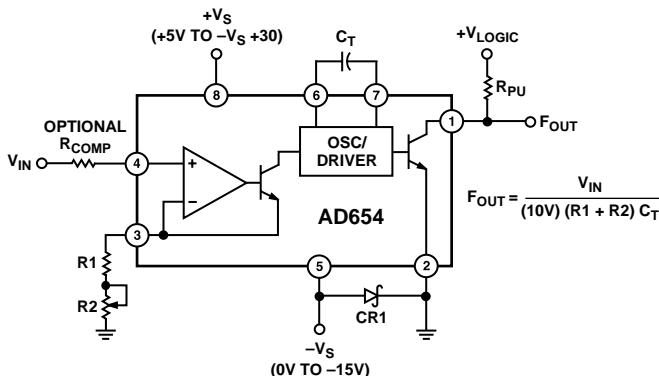
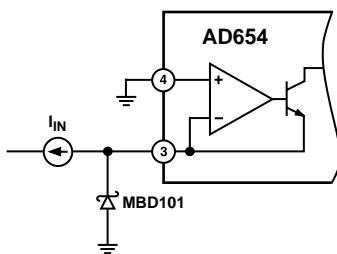

Figure 1. Standard V-F Connection for Positive Input Voltages
Figure 5. Input Protection
The AD654's block diagram appears in Figure 1. A versatile operational amplifier serves as the input stage; its purpose is to convert and scale the input voltage signal to a drive current in the NPN follower. Optimum performance is achieved when, at the full-scale input voltage, a 1 mA drive current is delivered to the current-to-frequency converter (an astable multivibrator). The drive current provides both the bias levels and the charging current to the externally connected timing capacitor. This "adaptive" bias scheme allows the oscillator to provide low nonlinearity over the entire current input range of 100 nA to 2 mA. The square wave oscillator output goes to the output driver which provides a floating base drive to the NPN power transistor. This floating drive allows the logic interface to be referenced to a level other than  $-V_S$ .
In the connection scheme of Figure 1, the input amplifier presents a very high ( $250 \text{ M}\Omega$ ) impedance to the input voltage, which is converted into the proper drive current by the scaling resistors at Pin 3. Resistors R1 and R2 are selected to provide a 1 mA full-scale current with enough trim range to accommodate the AD654's 10% FS error and the components' tolerances. Full-scale currents other than 1 mA can be chosen, but linearity will be reduced; 2 mA is the maximum allowable drive. The AD654's positive input voltage range spans from  $-V_S$  (ground in sink supply operation) to four volts below the positive supply. Power supply rejection degrades as the input exceeds  $(+V_S - 3.75 \text{ V})$  and at  $(+V_S - 3.5 \text{ V})$  the output frequency goes to zero.
As indicated by the scaling relationship in Figure 1, a  $0.01 \mu\text{F}$  timing capacitor will give a 10 kHz full-scale frequency, and  $0.001 \mu\text{F}$  will give 100 kHz with a 1 mA drive current. Good V/F linearity requires the use of a capacitor with low dielectric absorption (DA), while the most stable operation over temperature calls for a component having a small tempco. Polystyrene, polypropylene, or Teflon\* capacitors are preferred for tempco and dielectric absorption; other types will degrade linearity. The capacitor should be wired very close to the AD654. In Figure 1, Schottky diode CR1 (MBD101) prevents logic common from dropping more than 500 mV below  $-V_S$ . This diode is not required if  $-V_S$  is equal to logic common.
The AD654 was designed to be used with a minimum of additional hardware. However, the successful application of a precision IC involves a good understanding of possible pitfalls and the use of suitable precautions. Thus  $+V_{IN}$  and  $R_T$  pins should not be driven more than 300 mV below  $-V_S$ . Likewise, Logic Common should not drop more than 500 mV below  $-V_S$ . This would cause internal junctions to conduct, possibly damaging the IC. In addition to the diode shown in Figures 1 and 2 protecting Logic Common, a second Schottky diode (MBD101) can protect the AD654's inputs from "below  $-V_S$ " inputs as shown in Figure 5. It is also desirable not to drive  $+V_{IN}$  and  $R_T$  above  $+V_S$ . In operation, the converter will exhibit a zero output for inputs above  $(+V_S - 3.5)$  V. Also, control currents above 2 mA will increase nonlinearity.